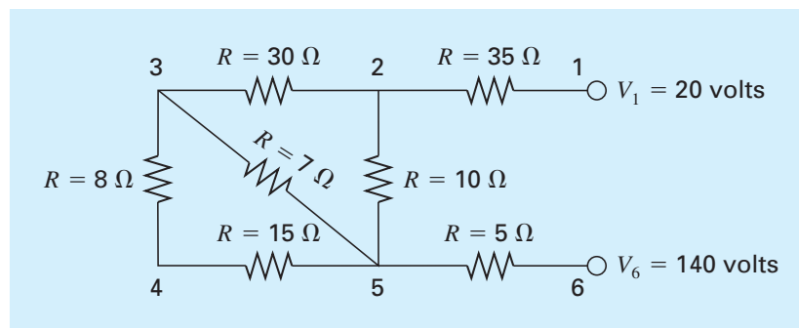

FIGURE P8.15
8.15 Perform the same computation as in Sec. 8.3, but for the circuit in Fig. P8.15.